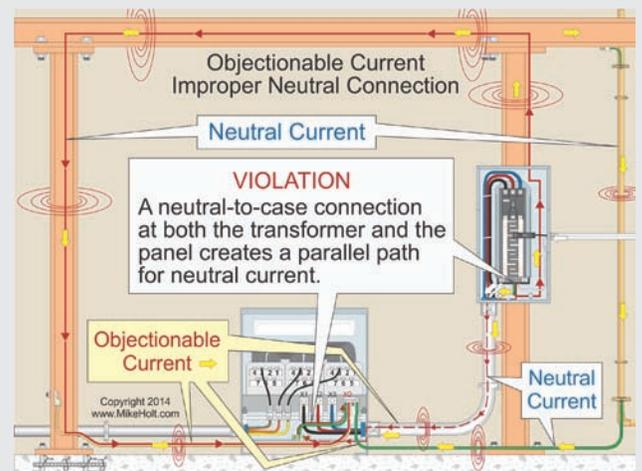

Figure 250–25
**Generator.** Objectionable neutral current will flow on metal parts and the equipment grounding conductor if a generator is connected to a transfer switch with a solidly connected neutral and a neutral-to-case connection is made at the generator. Figure 250–26